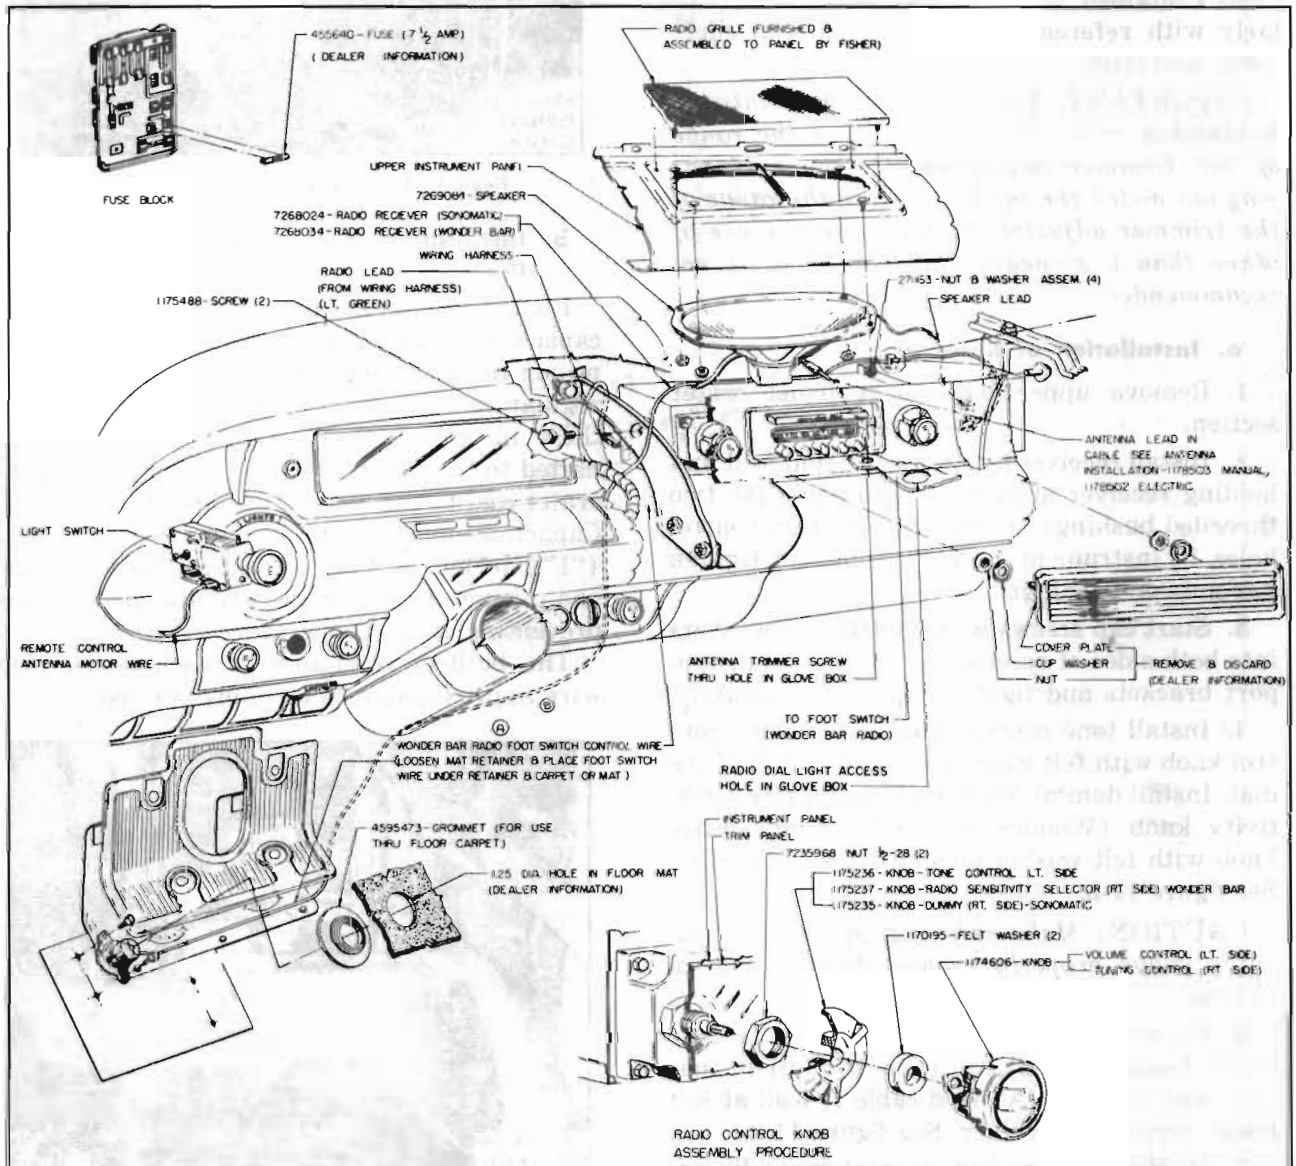

Figure 11-2—Receiver Installation
3. Open glove box. Insert a screwdriver up through the opening and into receiver adjacent to the lead-in cable (fig. 11-2). Carefully turn the trimmer screw back and forth until a position is found that gives maximum volume.
4. Install tone control knob and volume control knob with felt washer on shaft to *left* of the dial. Install dummy knob (Sonomatic) or sensitivity knob (Wonderbar) and tuning control knob with felt washer on shaft to *right* of dial. See figure 11-2.
5. Connect the "A" lead cable to the fuse block. Install proper fuse (par. 10-5, b) in fuse clips and connect "A" lead cable to lead at left lower corner of receiver. See figure 11-2.
up behind right edge of steering column pad. Plug cable into receiver and attach it to clip on receiver. See figure 11-2.